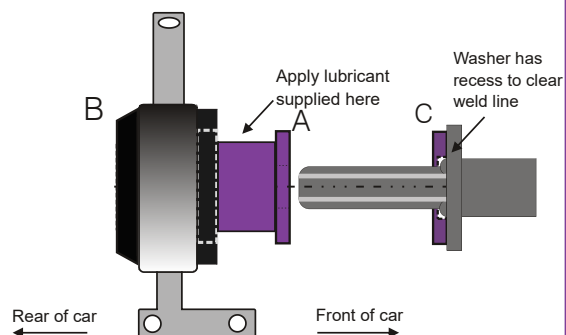

Figure 2
3. Slide the PU washer marked 5-101C onto the wishbone with the stepped face facing towards the arm, providing clearance for the weld and then slide 5-101A bush onto the wishbone, with the flange butting up against the PU washer as shown in Fig 2. Apply a small amount of the supplied grease between the A and C parts.